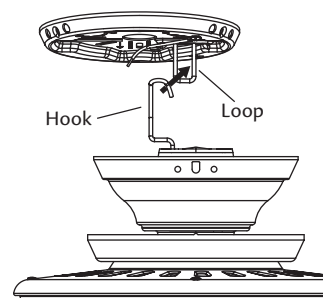

Figure 17 - Hanging the fan
1. Raise the fan and place the hook through the loop on the ceiling plate as shown in Figure 17. Use the note and arrow engraved in the ceiling plate to assist in determining the direction to assemble.